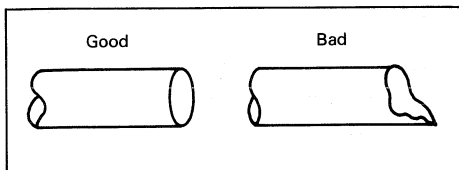

Figure V-1. Processed Fiber-tip Examples
- (iv) Hold the fiber tip with a pair of tweezers and bend to snap, then expose the clean surface. When the surface of the fiber cannot be snapped flatly, try again (Fig. V-1). Take enough care when processing a fiber, because the extremely thin core of fiber may easily pierce human skin.
- (6) Mounting a device on a thermal radiator: